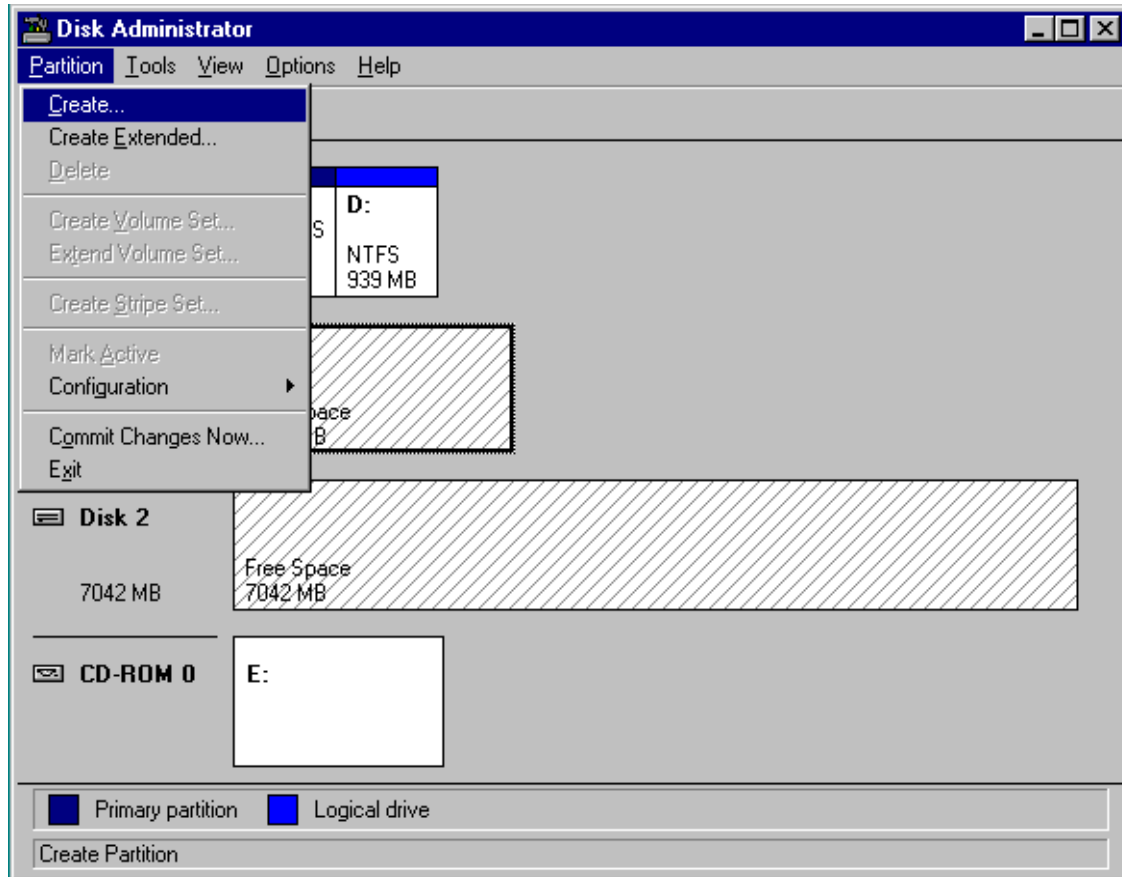

Figure 3.3 Opening the Create Primary Partition Panel
To create and format partitions on the new SCSI disk devices (see Figure 3.3 through Figure 3.9):
1. On the Disk Administrator main panel, select the free space area for the SCSI disk you want to partition, select the **Partition** menu, and then select **Create...** to open the Create Primary Partition panel (see Figure 3.3). **Note:** Stripe Set Volume with parity is not currently supported on the 9900V.